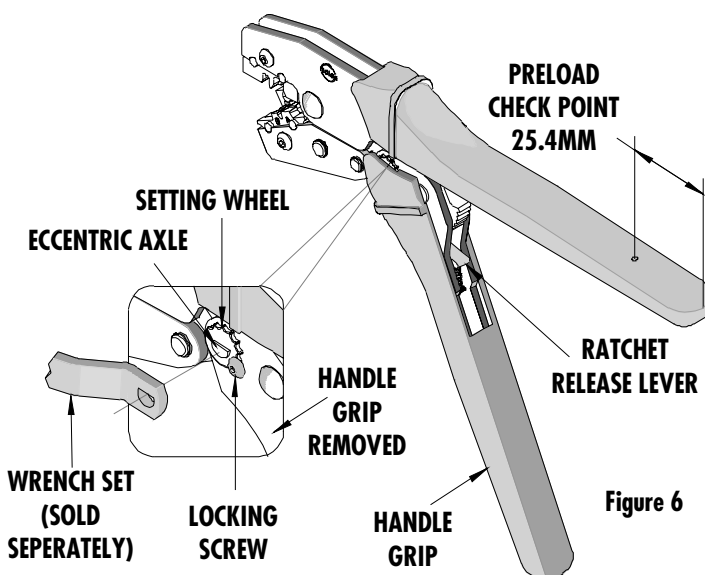

Figure 6
3. Make certain all pins; pivot points and bearing surfaces are protected with a thin coat of high quality machine oil. Do not oil excessively. The tool was engineered for durability but like any fine piece of equipment it needs cleaning and lubrication for a maximum service life of trouble free crimping. Light oil such as 30 weight automotive oil used at the oil points shown in Figure 6, every 5,000 crimps or 3 months, will significantly enhance the tool life.
Should this tool ever become stuck or jammed in a partially closed position, **Do Not force the handles open or closed.** The tool will open easily by pressing the ratchet release lever. See Figure 6.
How To Adjust Tool Preload (See Figure 6)